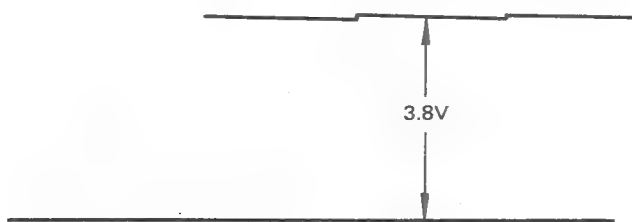

Figure 36
2. Observe TP5 on a oscilloscope, and adjust R724 to give 3.8V as shown in Figure 36.